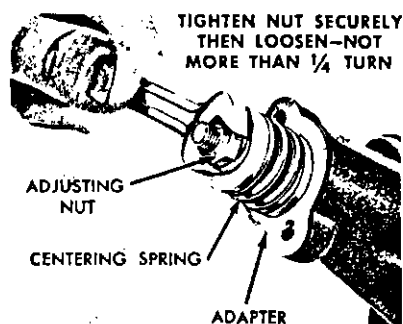
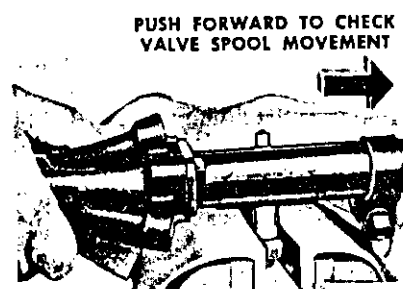

FIG. 43 —Adjusting Centering Spring
FIG. 44 —Inspecting Valve Spool Movement
16. Compress the centering spring, and install the nut on the bolt. Tighten the nut snug, then loosen it not more than $\frac{1}{4}$ turn (Fig. 43). Excessive tightening of the nut may break the stop pin at the travel regulator stop.
19. Install the nut on the ball stud so that the valve can be positioned in a vise as shown in Fig. 43. Then push forward on the cap end of the valve to check the valve spool for free movement. Fig. 44